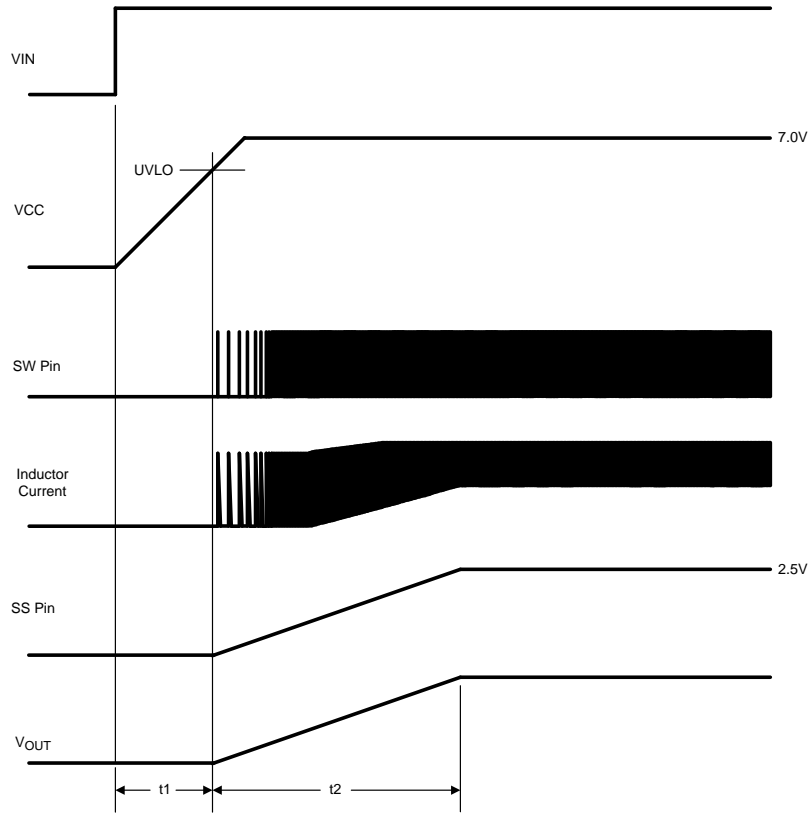

Figure 25. Startup Sequence
**C3:** The capacitor at the  $V_{CC}$  pin provides noise filtering and stability for the  $V_{CC}$  regulator. C3 should be no smaller than 0.1 μF, and should be a good quality, low ESR, ceramic capacitor. C3's value, and the  $V_{CC}$  current limit, determine a portion of the turn-on-time ( $t_1$  in Figure 25).
**C6:** The capacitor at the SS pin determines the softstart time, i.e. the time for the output voltage, to reach its final value ( $t_2$  in Figure 25). The capacitor value is determined from the following: